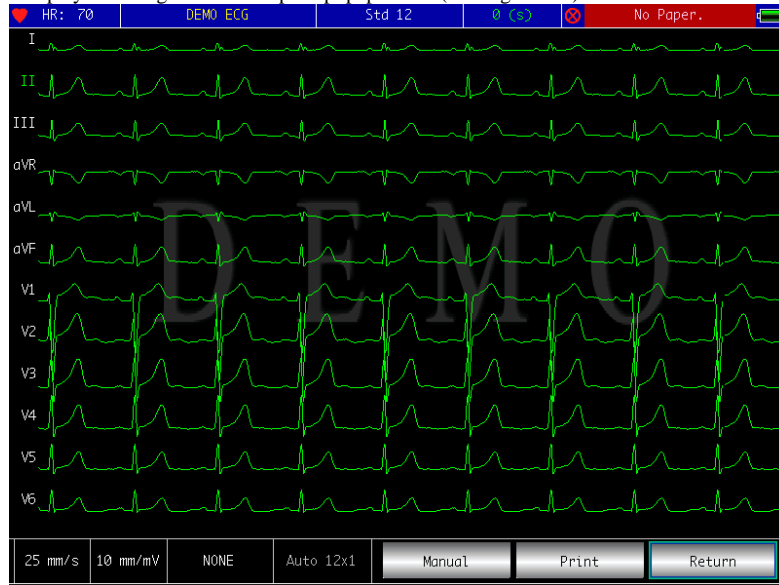

Figure 9-1
9.1 When recording, the device will stop paper trace in case of paper lack, and the LCD screen will display as the figure below to prompt paper lack.(See Figure 9-1)